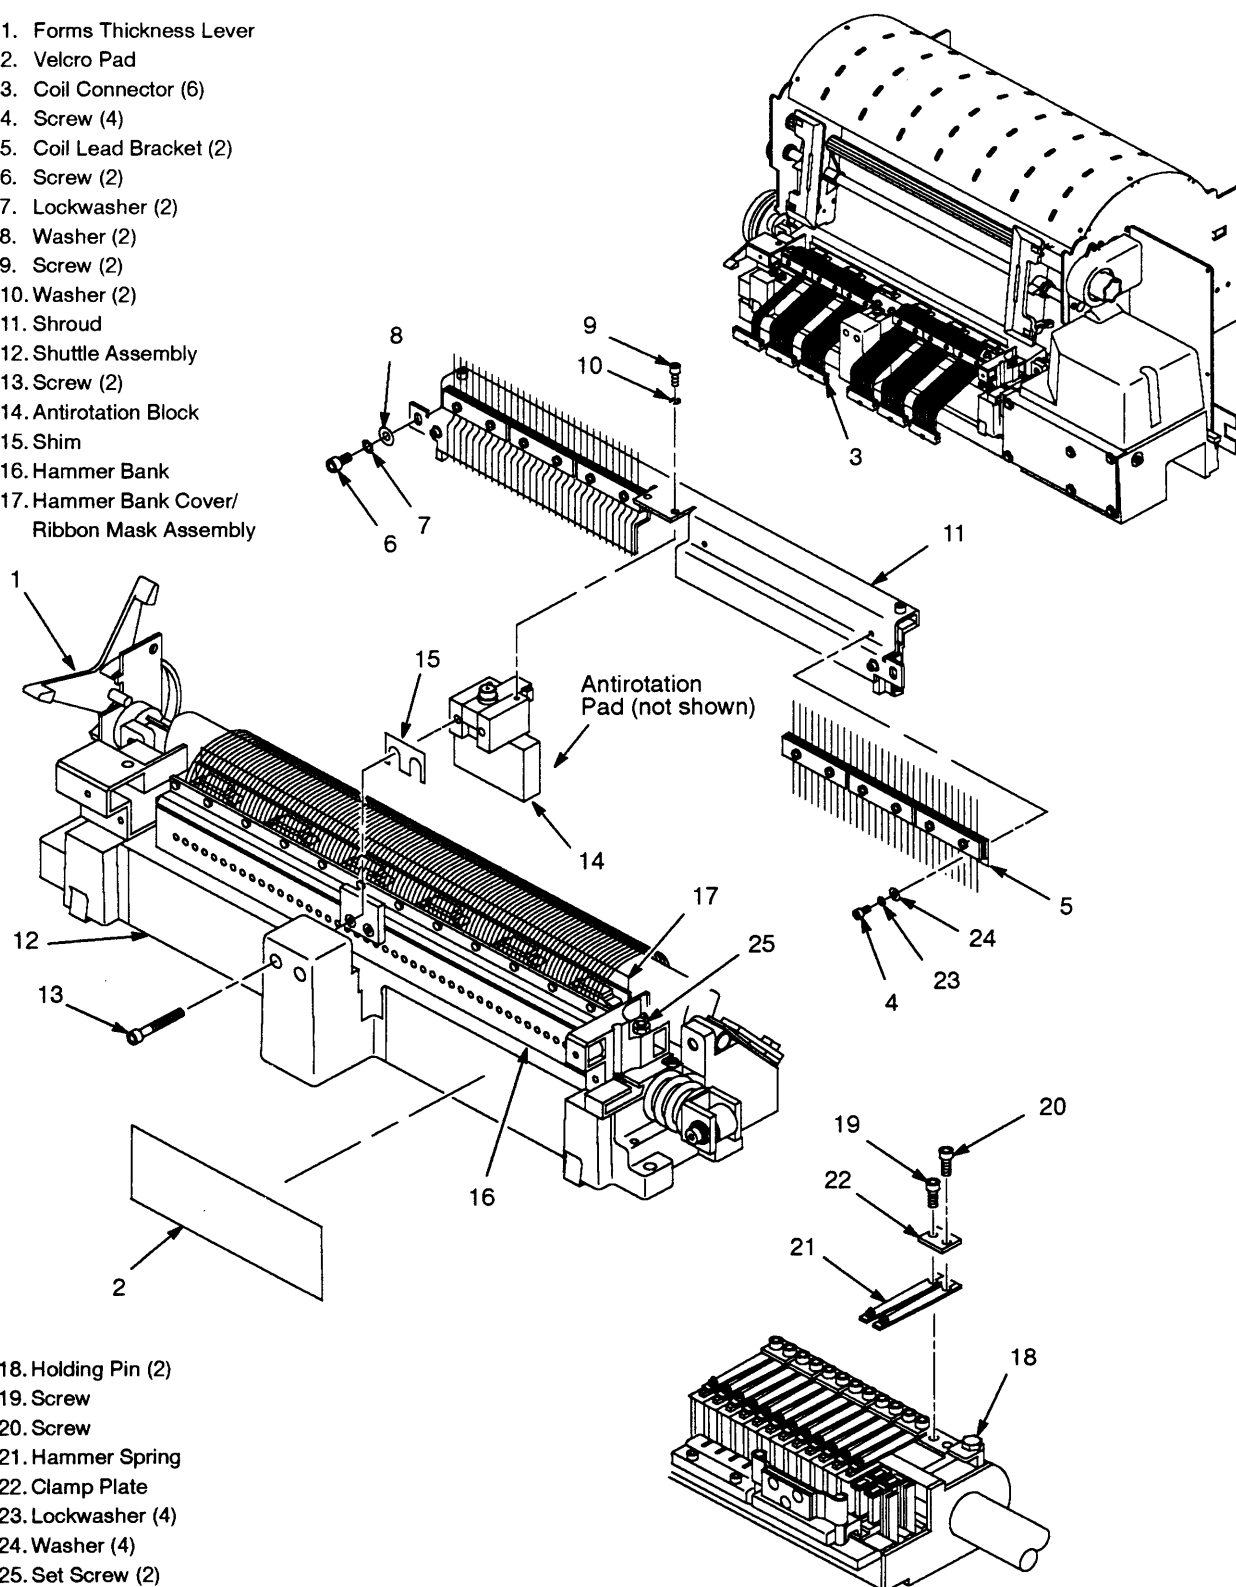

Figure 6-2. Hammer Bank Service Position
- a. Raise the forms thickness lever (1) all the way. (See Figure 6-2.)
- b. Remove the velcro pads (2) holding the coil wires.
- c. Disconnect the coil cable connectors (3).
- d. Remove four screws (4), eight washers (23, 24), and two coil lead brackets (5) from the shroud assembly (11).
- e. Remove two screws (6), lockwashers (7), and washers (8) securing the shroud assembly (11).
- f. Remove two screws (9) and washers (10) securing the shroud assembly (11).
- g. Remove the shroud assembly (11) from the shuttle assembly (12).